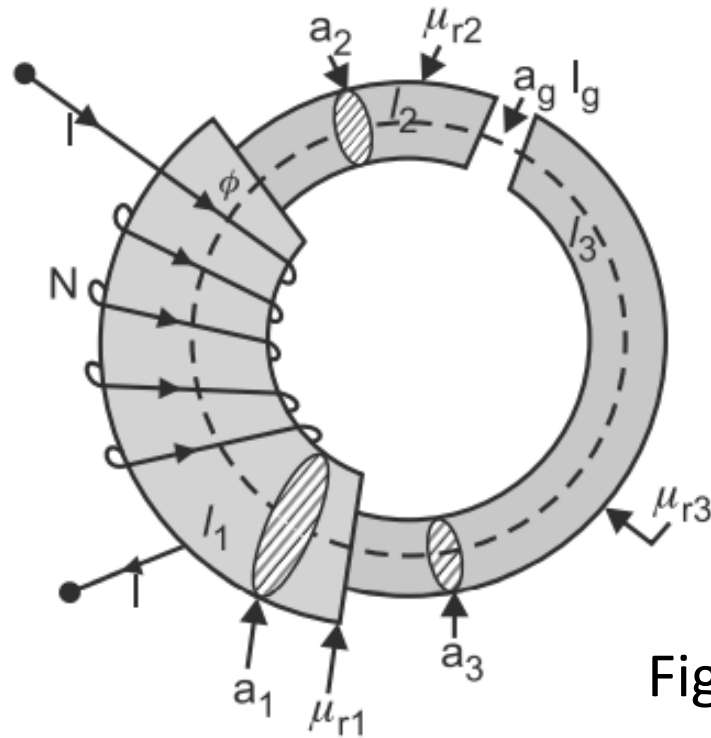

Fig. 3.3
- Such as series magnetic circuit (composite circuit) is shown in Fig. 3.3.